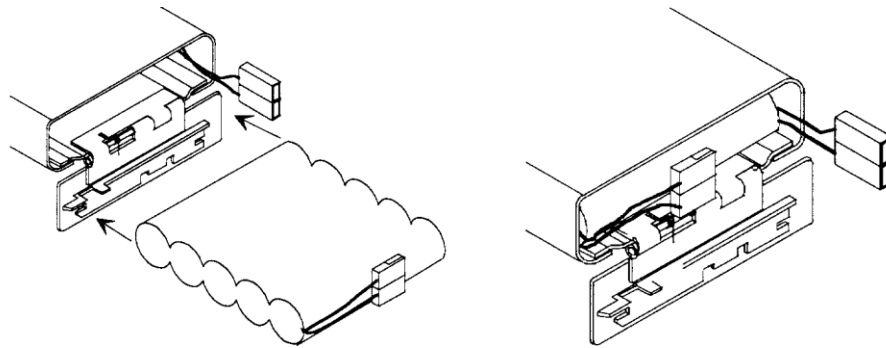

Figure 4.3
- 4.3 Slide the battery into the battery compartment and position the connectors as shown in Figure 4.3.